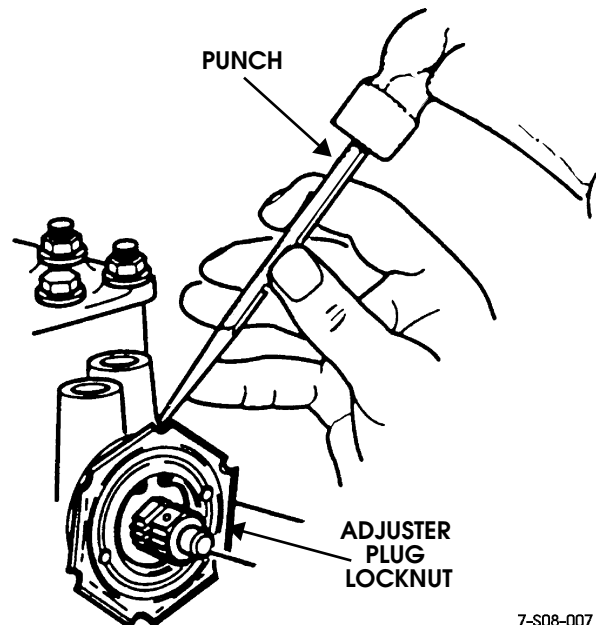

Figure 8-34: Adjuster Plug Locknut Removal
1. Remove adjuster plug locknut with punch and hammer (Figure 8-34).